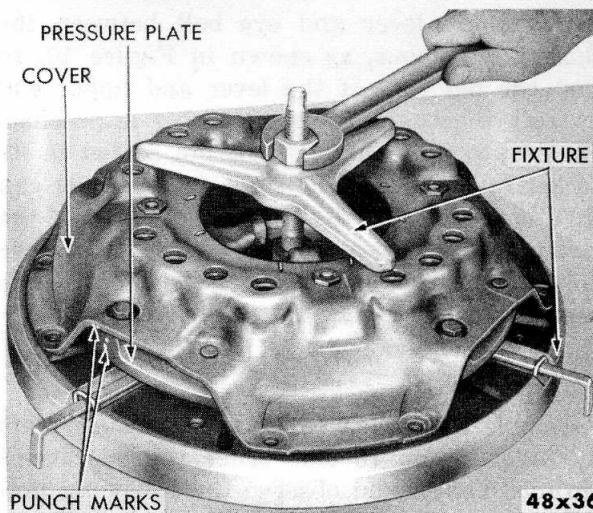

Fig. 9—Clutch Cover and Pressure Plate Assembly in Fixture C-585-B
- (2) Mount the clutch assembly in the clutch fixture.
- (3) Install the three-legged spider over the center screw so that it rests directly against the top of the clutch cover.
- (4) Install the plain thrust washer and the hexagonal compression nut, and compress the springs by turning down the compression nut (Fig. 9).